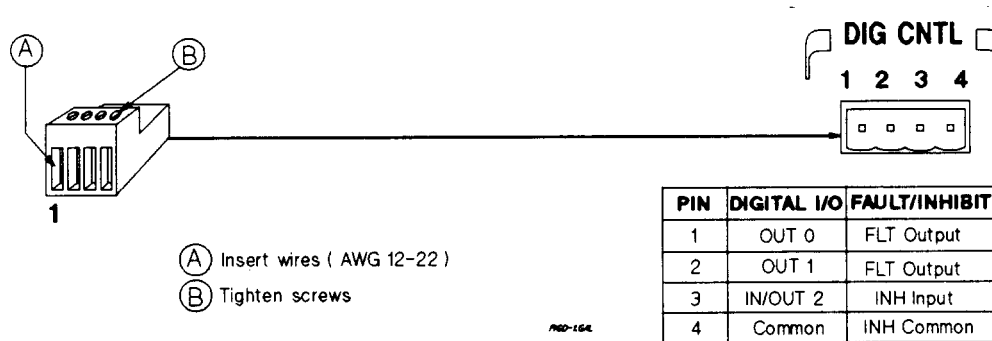
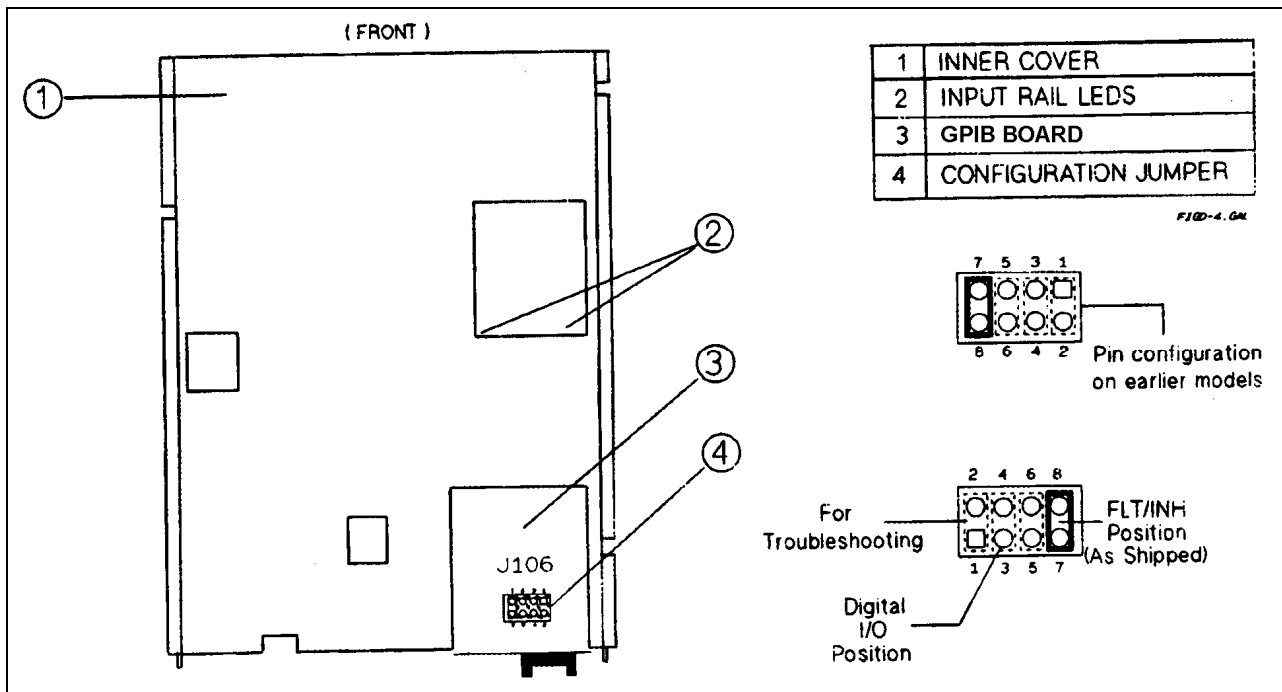
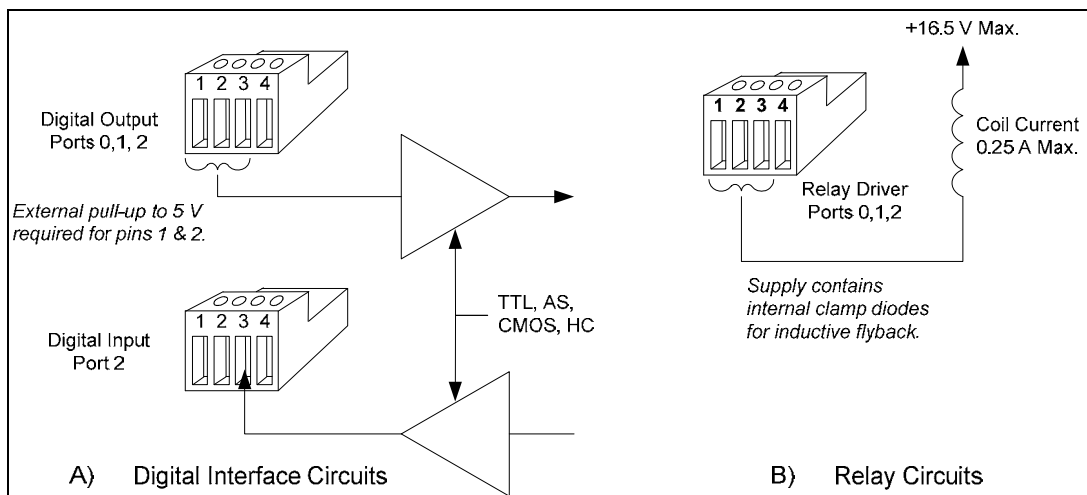

Figure D-1. Digital Port Connector
Figure D-4. Digital Port Configuration Jumper
Figure D-5. Digital I/O Port Applications
A 4-pin connector and a quick-disconnect mating plug are provided for digital input and output signals (see Figure D-1 for wiring connections, and Table 1-5 in Chapter 1 for electrical characteristics). This digital port can be configured to provide either Fault/Inhibit or Digital I/O functions.
As shipped from the factory, the digital port is configured for FLT/INH operation. You can change the configuration of the port to operate as a general-purpose digital input/output port to control your custom circuitry as shown in Figure D-4. To change the port configuration, you must move a jumper on the GPIB board.
5. Refer to Figure D-4 and use needle-nose pliers to move the jumper to the Digital I/O position.
The digital port can be configured (see Figure D-4) to provide a digital input/output to be used with custom digital interface circuits or relay circuits. Some examples are shown Figure D-5. See Figure D-1 for the pin assignments of the mating plug and Table 1-5 for the electrical characteristics of the port. See **DIG:DATA[:VAL]** in "Chapter 3 - Language Dictionary" of the Programming Guide for information on programming the port. The digital port pins are as follows: